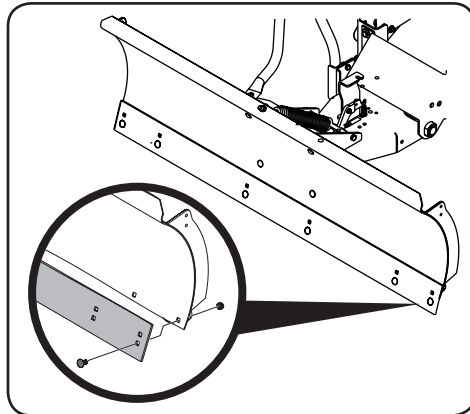

Figure 2-21
2. For tractors with 15" front tires, using the lower set of mounting holes, install the shave plate (789-00467) to the blade assembly (689-00661) with six carriage bolts (710-0451) and six flange lock nuts (912-0429) from hardware pack 6 (689-00666). See Figure 2-21.